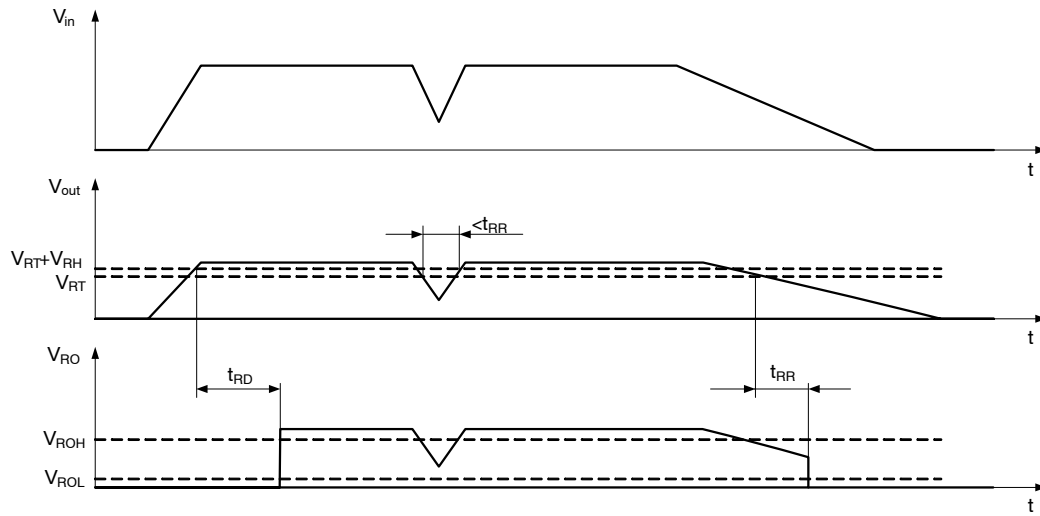

Figure 21. Reset Function and Timing Diagram
A reset signal is provided on the Reset Output (RO) pin to provide feedback to the microprocessor of an out of regulation condition. The timing diagram of reset function is shown in Figure 21. This is in the form of a logic signal on RO. Output voltage conditions below the RESET threshold cause RO to go low. The RO integrity is maintained down to $V_{out} = 1.0$ V. The Reset Output (RO) circuitry includes internal pull-up connected to the output (V_{out}) No external pull-up is necessary.